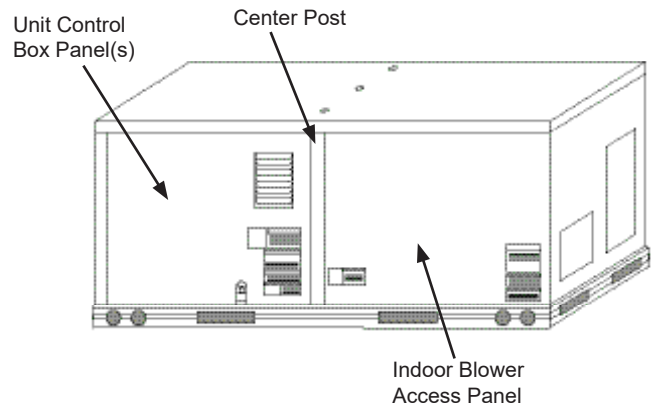

Fig. 6 - Typical Indoor Fan Motor Access Panel Locations
Step 9: Remove the indoor blower access panel and the panel(s) covering the unit control box. See Figure 6.
Step 24: Install economizer hood over economizer. Screw hood in place through pre-punched holes. Reinstall the unit's filter access door. See Figure 20. Re-install the Indoor blower access panel. See Figure 6.
Step 25: After powering controller, program the Jade W7220 controller per the instructions to follow. See Table 8 for summarized controller set up instructions. After all settings have been made, re-install the unit control box panel. See Figure 6.